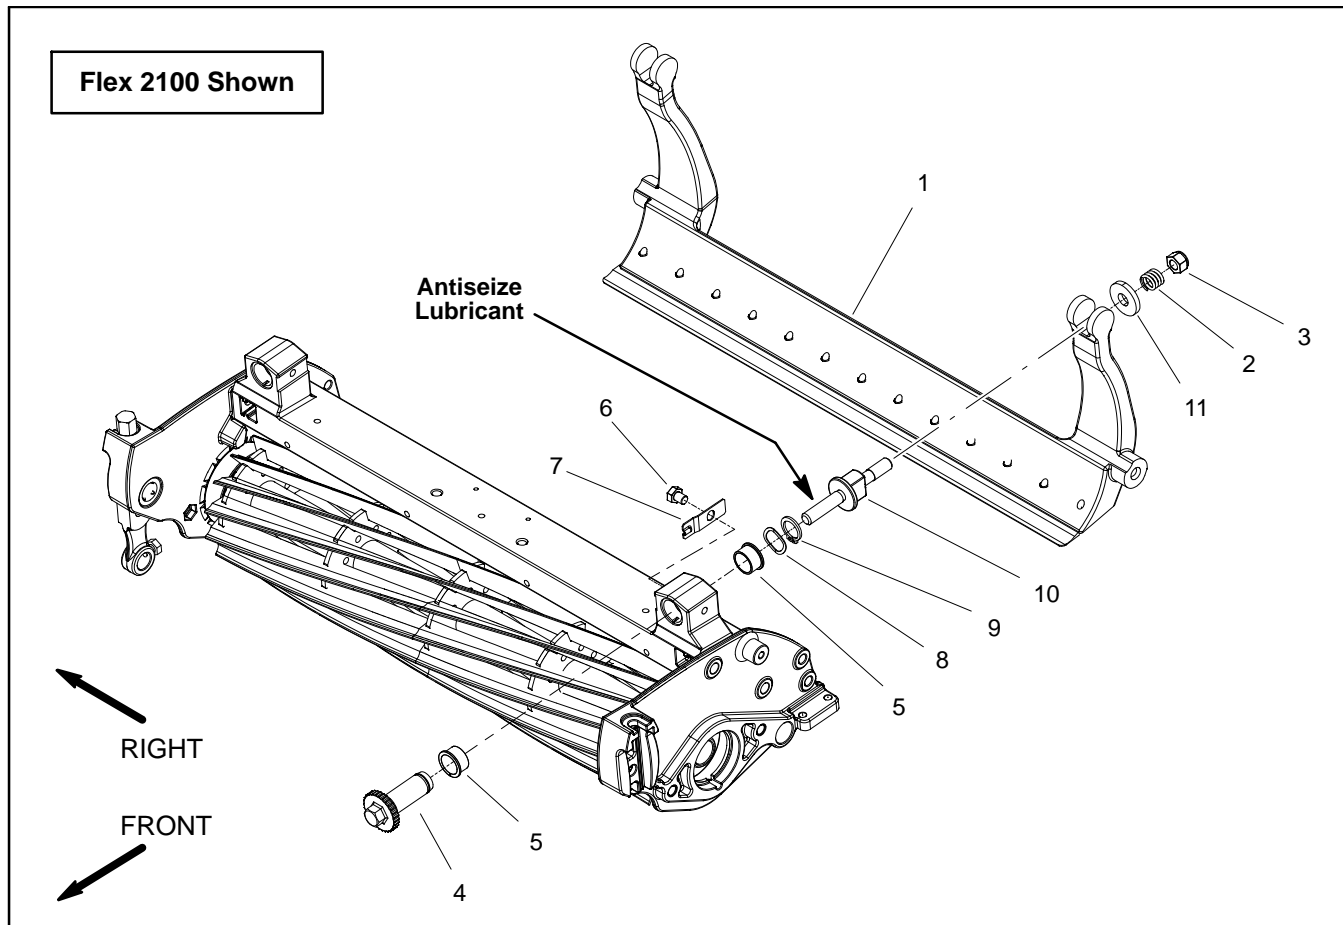
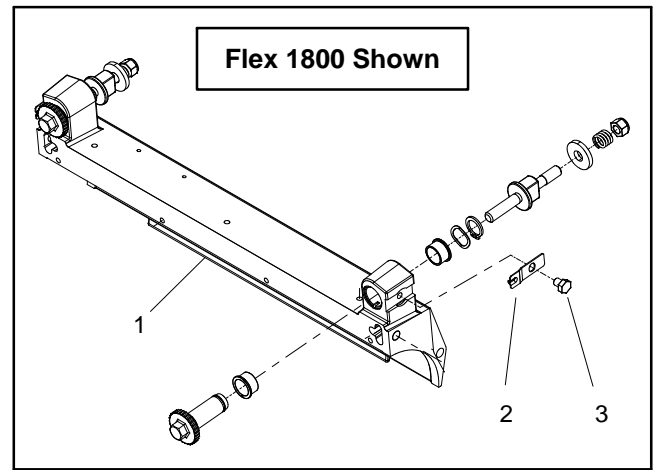

Figure 22
Figure 23
NOTE: The detent (item 7) used on Flex 2100 is toward the center of the cutting unit as shown in Figure 22. On Flex 1800 cutting units, the detent is mounted on the outside of the cutting unit crossmember (Fig. 23). Cutting unit service procedures are the same on both models.
Removal (Fig. 22)
Installation (Fig. 22)